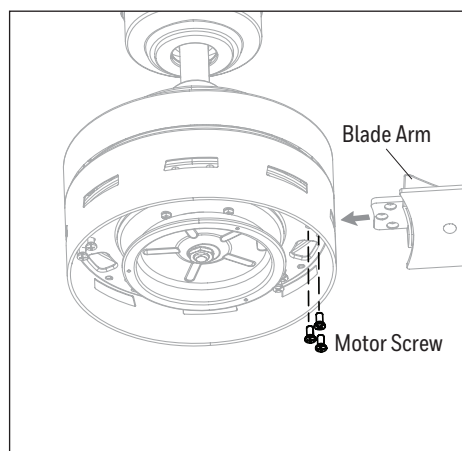

Figure 5.5
5. Insert blade arm through slots in the side of the motor assembly. Align the holes of one blade arm with three motor screw holes in underside of the motor assembly. Secure with three motor screws. Repeat this step for the remaining blade arms (Figure 5.5).